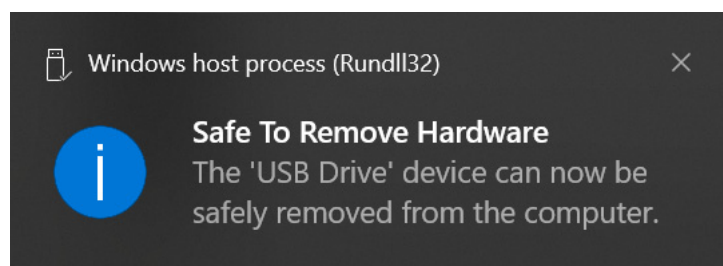

Figure 7-15: Safe To Remove Hardware
2. The **Safe To Remove Hardware** window opens (Figure 7-15). Do not disconnect the USB cable from the receiver and the controller or computer.